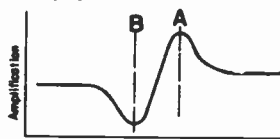

Figure 11
As an example, in a particular triple-tuned output transformer where the plate and diode leads ran close together, it was found that in attempting to align the transformer, the middle circuit was effective as long as either the input circuit or the output circuit was out of tune, but as soon as both input and output circuits were aligned, the center circuit had a very peculiar action. If the gain of the transformer is plotted against the capacity of the middle circuit, a curve similar to Fig. 11 was obtained. From this it is seen that there is one adjustment (A) that produces an increase in the overall amplification of the transformer. At this point the center circuit is contributing to the selectivity of the transformer. At another point (B) the amplification through the center circuit opposes the capacity coupling from the input to the output winding and results in a considerable decrease in amplification. At all other settings of its tuning condenser, the center circuit is so far out of resonance that it has no effect upon the gain of the transformer, which for all practical considerations, may be assumed to be a double-tuned capacity-coupled transformer. When the capacity between the high-potential input and output leads was reduced to a very low value by keeping the leads in opposite corners of the shield can, the transformer behaved as a triple-tuned transformer should, with all three circuits effective.